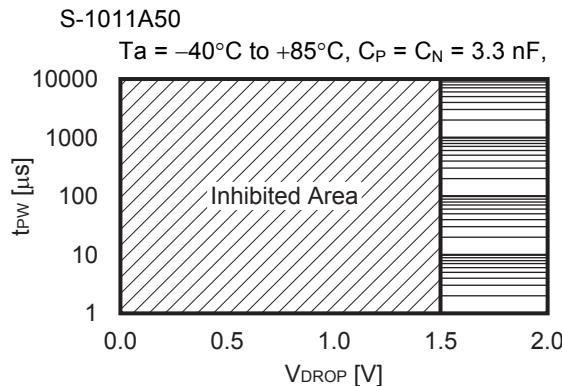
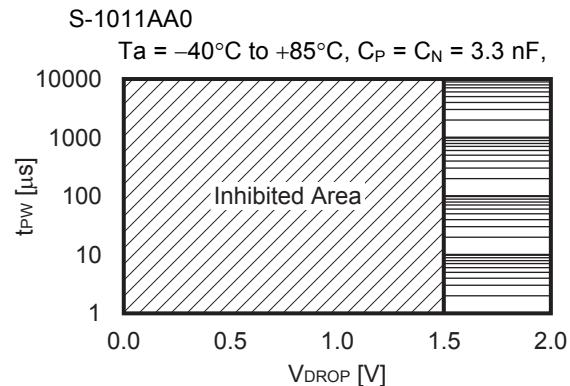

Figure 40
Figure 41
Figure 40 and **Figure 41** show the relation between pulse width (t_{PW}) and V_{DD} lower limit (V_{DROP}) where a release signal can be output after the normal release delay time has elapsed when the VDD pin (VDD detection product) instantaneously drops to the detection voltage ($-V_{DET}$) or lower and then increases to the release voltage ($+V_{DET}$) or higher during release delay time.
1. Figure 40 and Figure 41 show the input voltage conditions when a release signal is output after the normal release delay time has elapsed. When this is within the inhibited areas, release may erroneously be executed before the delay time completes.
2. When the VDD pin voltage is within the inhibited areas shown in Figure 40 and Figure 41 during release delay time, input 0 V to the VDD pin then restart the S-1011 Series.